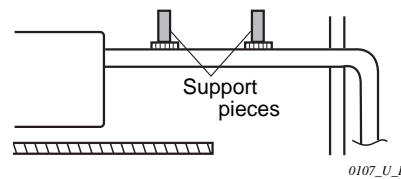

Fig. 3-93
- Do not apply force to the piping on the unit side when connecting the drain pipe. The pipe should not be allowed to hang loose from its connection to the unit. Fasten the pipe to a wall, frame or other support as close to the unit as possible. (Fig. 3-93)